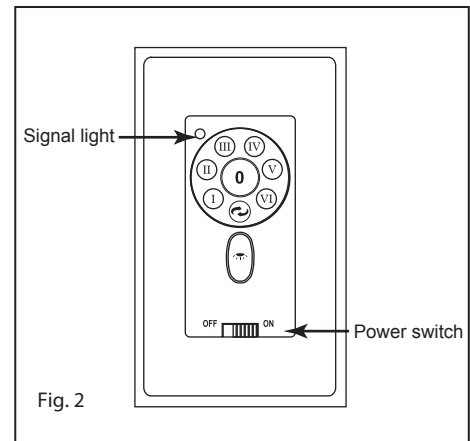

Fig. 2
- 3 Loosen the two security set screws and remove the downrod pin and retaining clip from the coupling on top of the motor assembly. (Fig. 2)
- 1 Locate 9 blade attachment screws. Slide one blade onto the motor as shown in Fig.2, aligning holes in blade with holes on the edge of the motor.
- 4 Install the wall transmitter on the existing wall outlet box using the screws provided. Attached the wall plate with the mounting screws to finish the installation. (Fig. 2)
- 7 Signal light (Fig. 2)